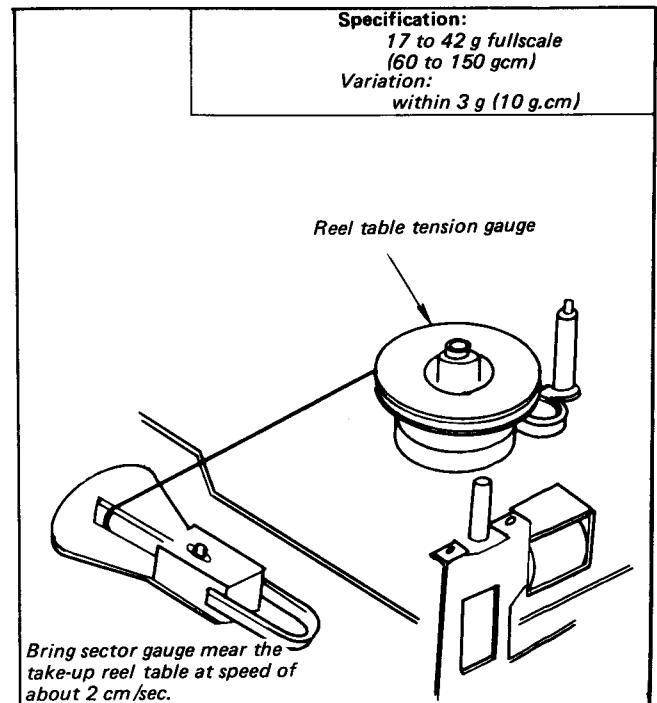

Fig. 3-17. Check of Take-up Torque
- (6) Set up the PLAY mode.
- (7) Bring the sector type gauge toward the tape-up reel table at a speed of approximately 2 cm/sec (8 inches/sec) as shown in Fig. 3-17. Confirm that the gauge reading is within the specification. If not, adjustment should be made with the torque volume (VR-3) on the SYSCON printed wiring board.